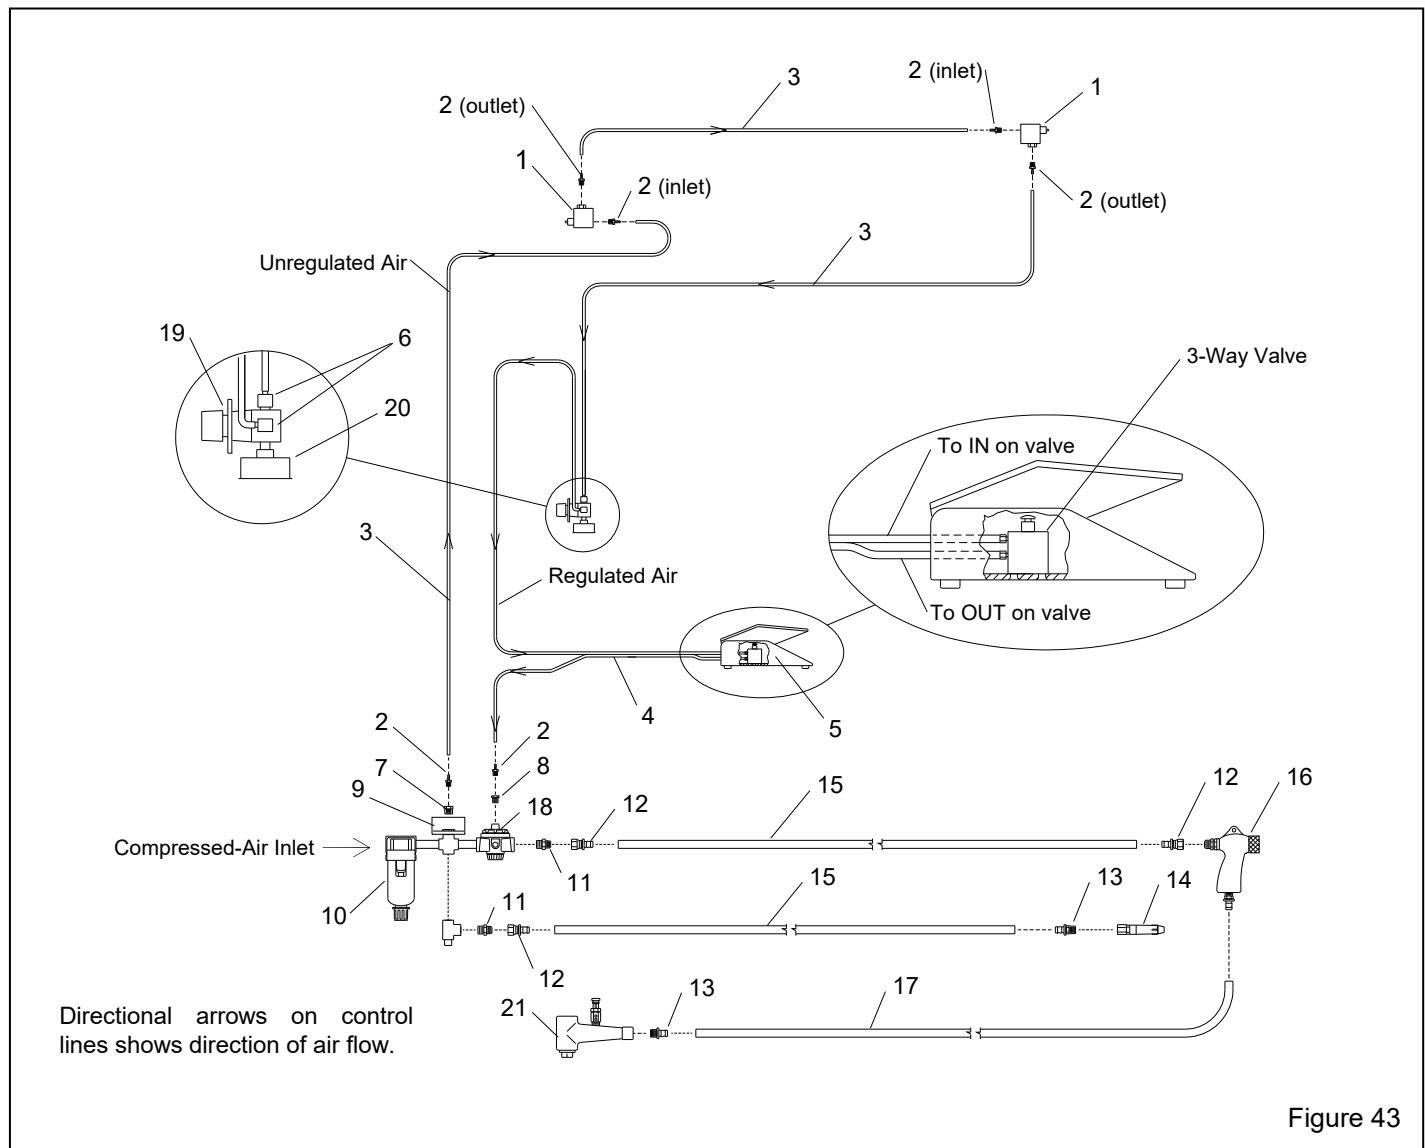

Figure 43
9.9 Cabinet Controls and Plumbing – Figure 43